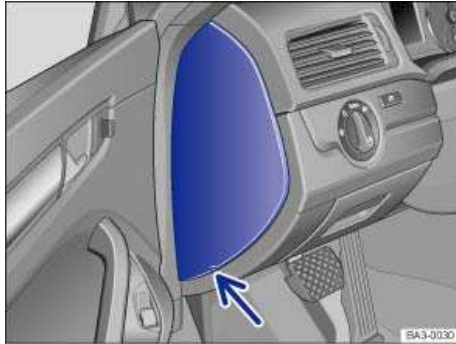

Fig. 214 On the driver side in the instrument panel: Fuse box cover.
- Pull the lower part of the cover in the direction of the arrow ⇒ fig. 214 and remove the cover from the bottom.
- To **install**, guide the cover from the bottom into the instrument panel and push in the direction opposite to the arrow ⇒ fig. 214 until you can hear it latch into place.